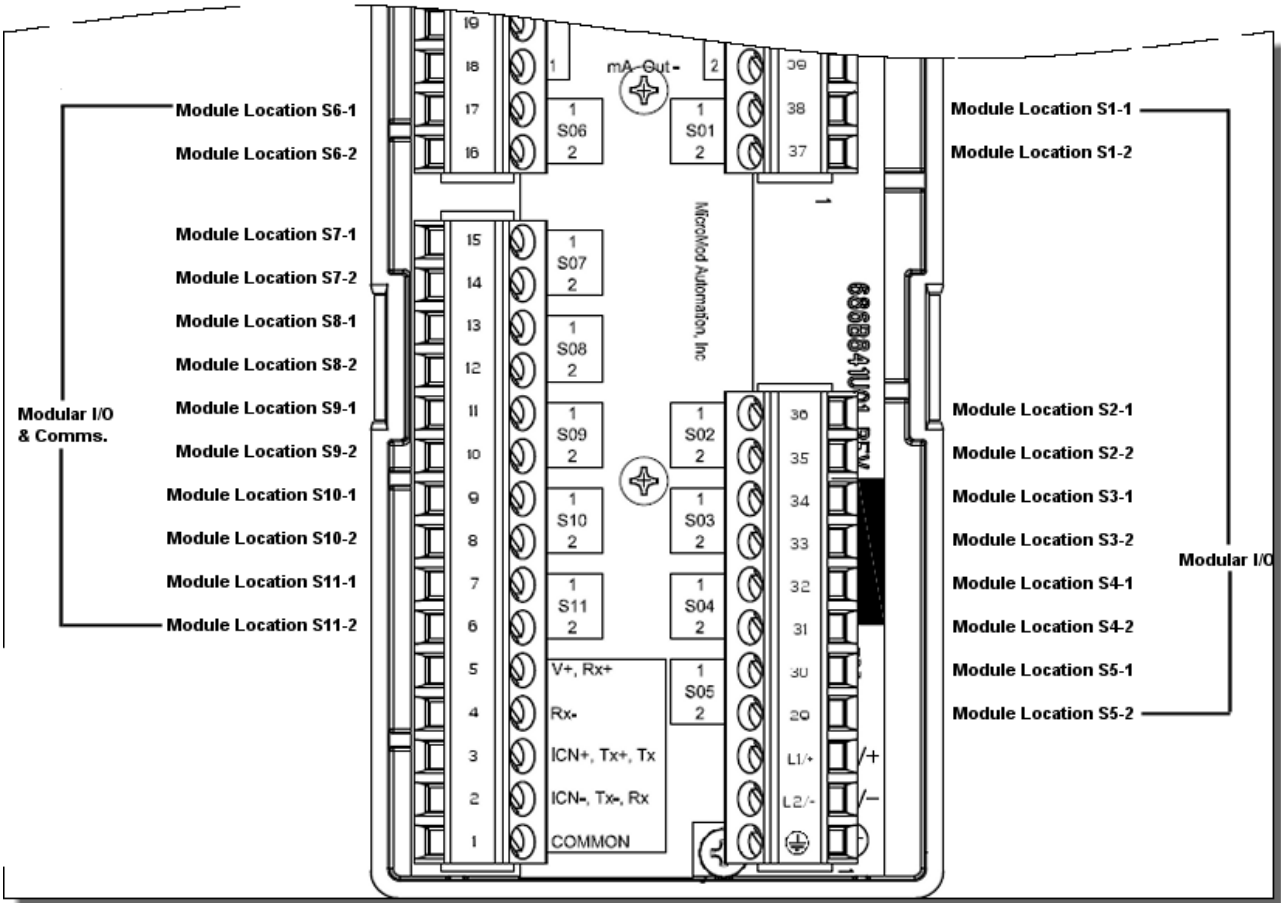
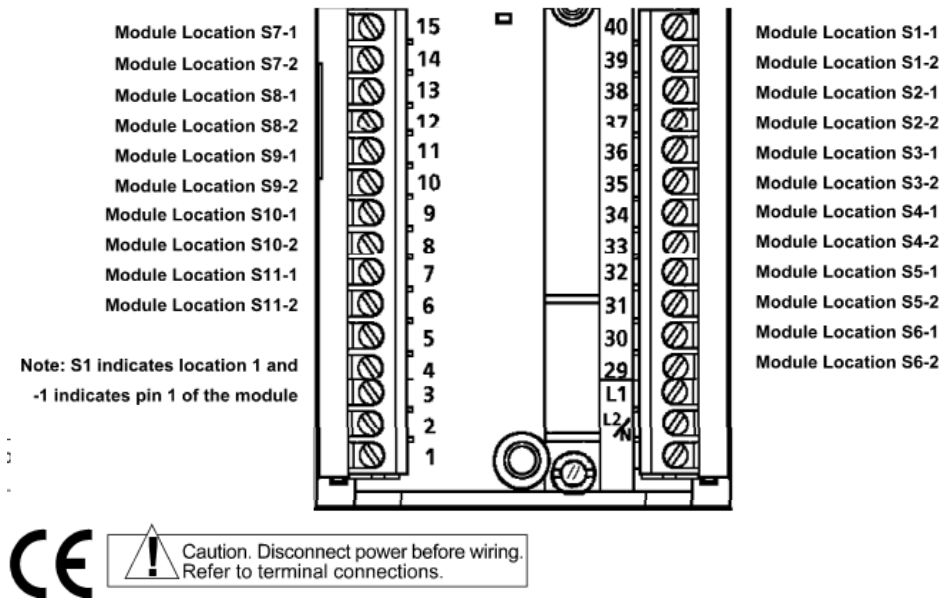

Figure 4-1a. Model C Terminal Identifications for Modular I/O
Figure 4-1b. Models A & B Terminal Identifications for Modular I/O
The wiring connections described in this section are made with the controller installed in its operating location and with the power off. Figure 4-1a shows the modular I/O connection terminals for Model C and Figure 4-1b shows the modular I/O connection terminals for Models A & B with the cover removed.
1. The diagrams for single width modules show connections to a sample location (usually location 1). The terminal numbers for the actual location being used must be determined by matching pin numbers 1 and 2 in each diagram to the terminal numbers for the selected location as shown in Figures 4-1a and 4-1b.
For other module locations on Model C, see Figure 4-1a for terminal numbers. See Figure 4-1b for Model A & B terminal numbers.
**Note:** Terminal numbers shown for Model C. For other module locations on Model C, see Figure 4-1a for terminal numbers. See Figure 4-1b for Model A & B terminal numbers.